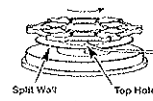

Fig. 12
2. Insert the end of one line into the top hole in the inner reel (Fig. 12). Wind the line tightly in the direction shown on the bottom of the inner reel until about 6 inches (150 mm) of line remains. Keep the line above the split wall. Insert the 6-inch section into the nearest .035 holding slot (Fig. 13).